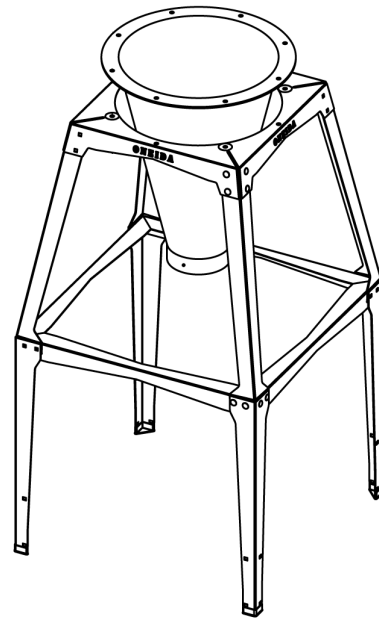

FIG. 3
Lift the Cone (D) onto the stand, making sure to align the Cone's flange holes with those on the stand [FIG 3].